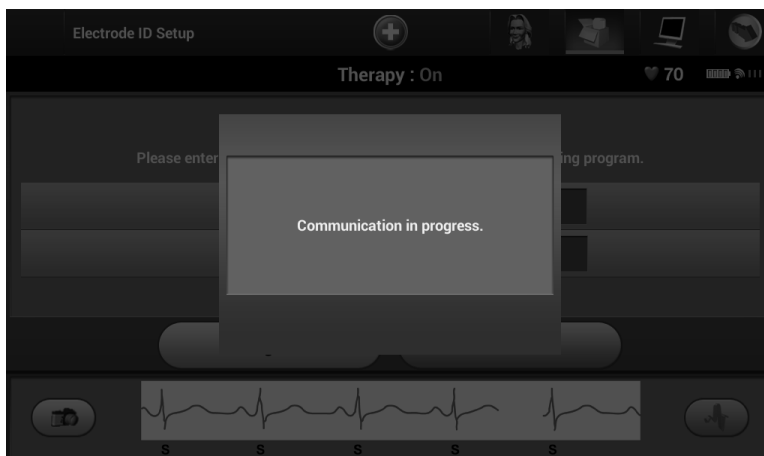

Figure 20: *Confirmation screen showing communication in progress*
6. Select the Program button to save the information. A confirmation screen will appear during communication with the SQ-RX device (Figure 20). Select Cancel to cancel information storage and return to the Automatic Setup screen.